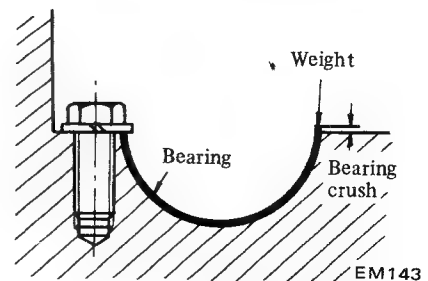

Fig. EM-68 Checking bearing crush
3. Then, measure bearing crush "H" with a feeler gauge. See Figure EM-68. The standard bearing crush value is listed below.